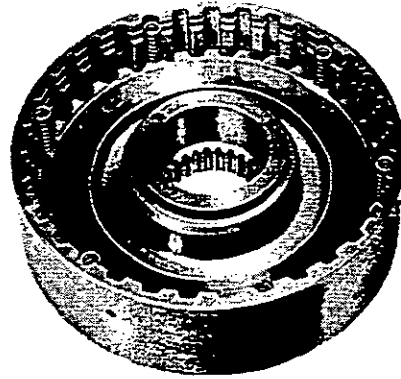

FIG. 22
- Fig 22. Fit one interplate (47) to the clutch housing, with the lugs on the interplate located in the housing splines immediately to the right of the six holes in the housing.
- Fig 22. Fit the six springs (49) as shown, placing them on the interplate lugs.